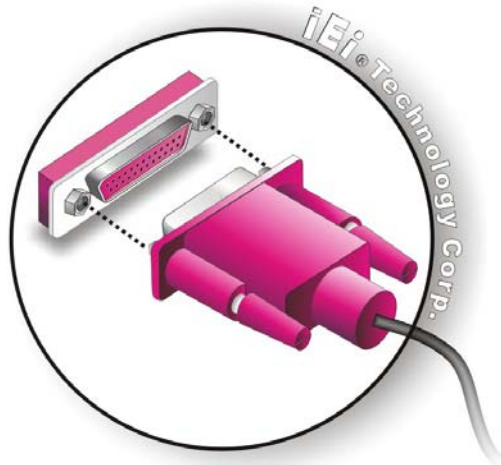

Figure 5-22: Connect the LPT Device
Step 5: Connect LPT device. Once the LPT interface connector is connected to the chassis, the LPT device can be connected to the LPT interface connector. See **Figure 5-22**